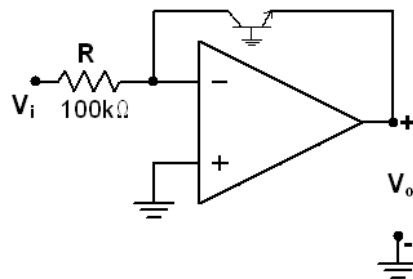

Fig 2
1. Use an NPN type BJT in place of diode as shown in fig 2.